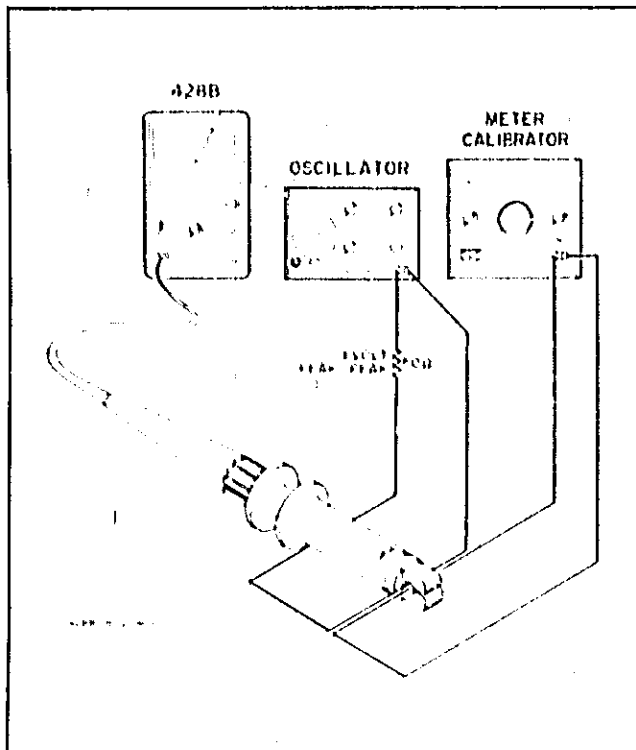

Figure 5-4. AC Overload
5-22. An oscillator or function generator, a 50 ohm resistor, an ac voltmeter or oscilloscope, and the meter calibrator are required to complete this check (a filament transformer and suitable current limiting resistors can be substituted for the oscillator shown in Figure 5-4).
d. Clip the 428B probe onto BOTH the wire from the meter calibrator and the resistor lead from the function generator (see Figure 5-4).